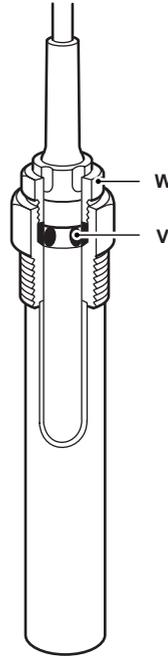

Fig. 6
Insert the bulb into the pocket until the 'O' ring seats in the union nipple as Figure 6, and screw home the gland nut (W) to compress the 'O' ring.